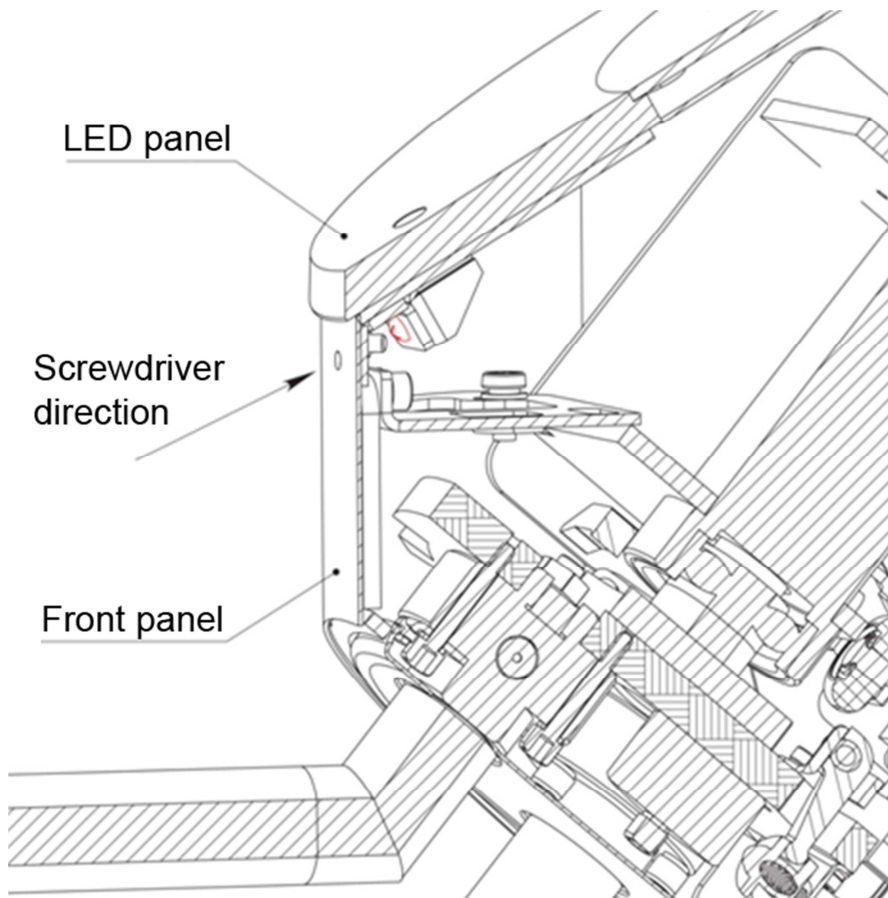

Fig. 3
- remove the screw fixing the LED panel with a crosshead screwdriver (Fig. 3);